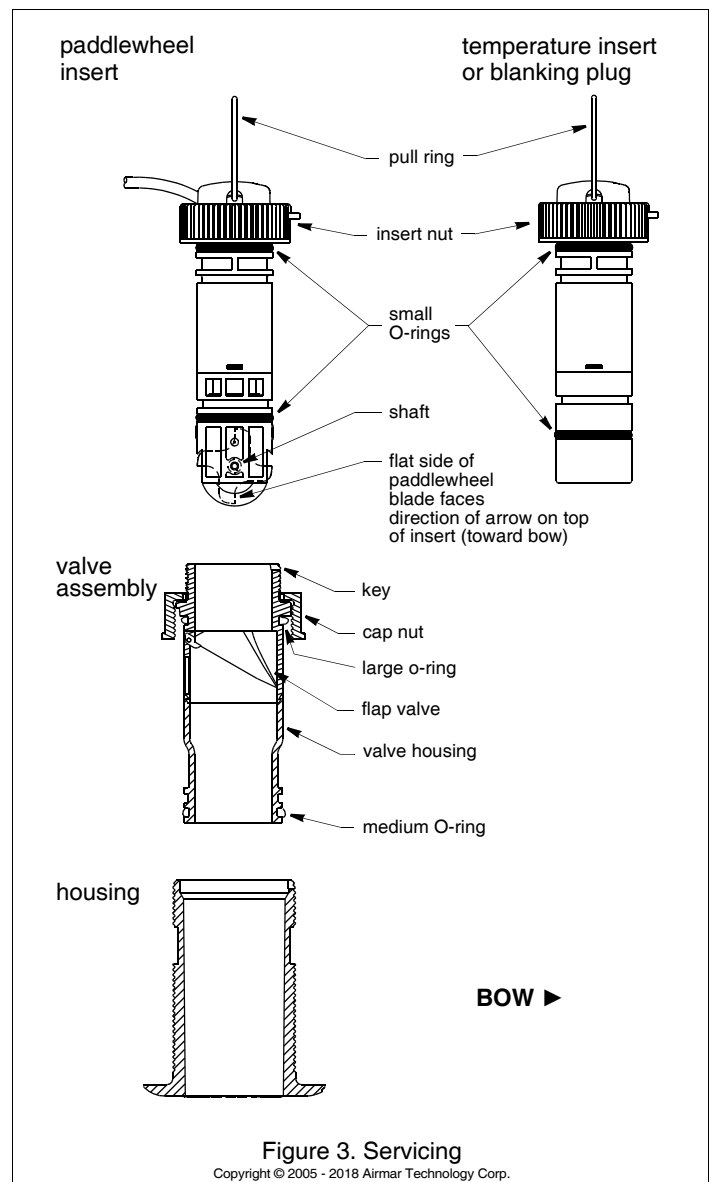

Figure 3. Servicing
5. The O-rings must be intact and well lubricated to make a watertight seal. After the marine sealant cures, inspect the O-rings on the valve assembly (replace if necessary) and lubricate them with the silicone lubricant supplied (Figure 3).
1. Place the INSERT nut on the top of the *long* blanking plug. Attach the pull ring to the plug, capturing the insert nut (Figure 3).
5. Slide the *long* blanking plug into the housing (Figure 3). Seat it into place with a pushing twisting motion until the key fits into the notch. Screw the INSERT nut in place and **hand tighten** only. Do not over tighten.
2. The O-rings must be intact and well lubricated to make a watertight seal. Inspect the O-rings (replace if necessary) and lubricate them with silicone lubricant or petroleum jelly (Figure 3).
6. Clean, repair, or replace the valve assembly, so the flap valve moves freely and seats against the valve housing (Figure 3).
1. Using the new paddlewheel shaft, push the old shaft out about 6mm (1/4"). With pliers, remove the old shaft (Figure 3).